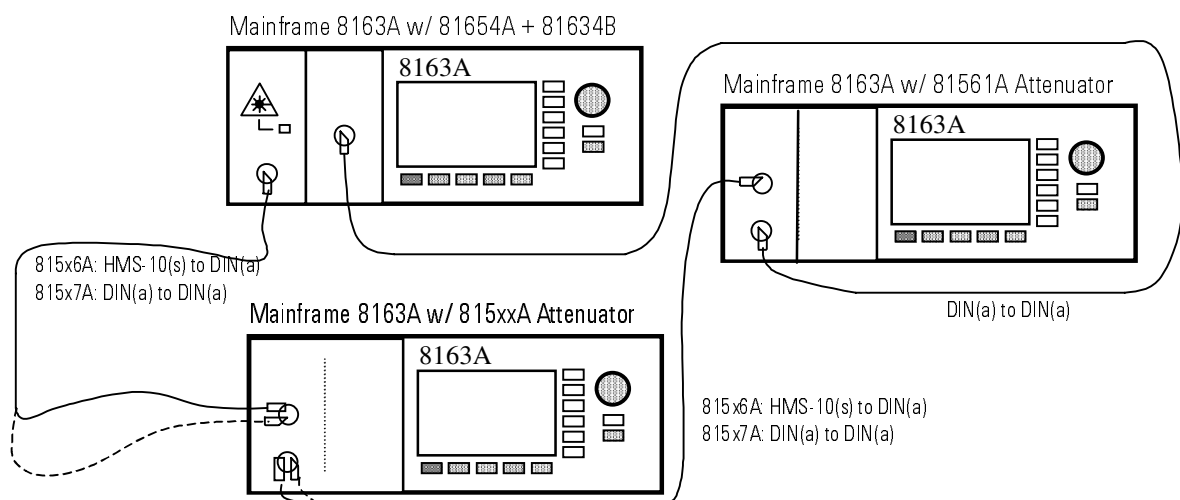

Figure 19 Relative Power Meter Uncertainty Setup
- 4 Connect the equipment as shown below in Figure 19